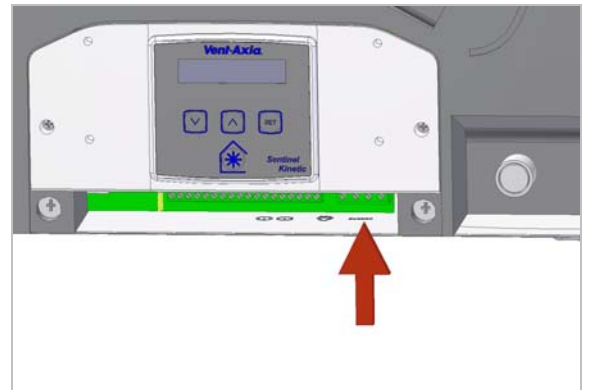

Figure 6: Disconnect mains cable Front of Unit)
3. Disconnect the mains cable from the terminal block: L, N, E (see *Figure 6*).